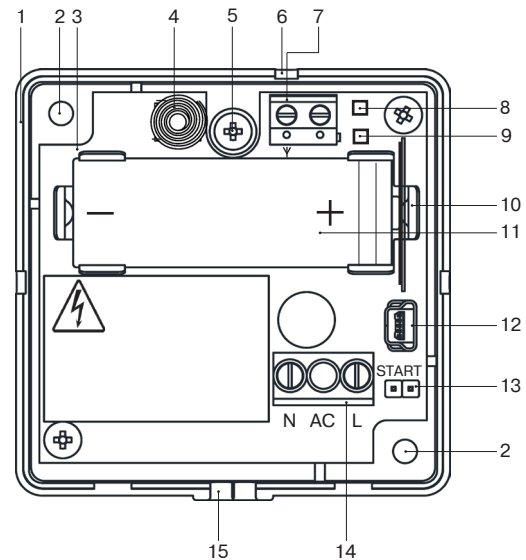

Figure 1 – RTR with removed cover
4.5 When installing the battery, observe the correct polarity shown in Figure 1.
The RTR layout with removed cover is shown in Figure 1. The base (1) comprises the following elements:
- two holes (2) for RTR fastening to mounting surface;
- hole (5) for cover fixation;
- openable hole (6) for antenna installation;
- recess (15) for power cord wiring.
9.4 Energize the RTR from the storage battery by closing START contacts (Fig.1 pos.13) by current-conducting item until green and red LEDs light up.
11.3 Press tamper contact (Fig1, pos.4) and hold it during several seconds.